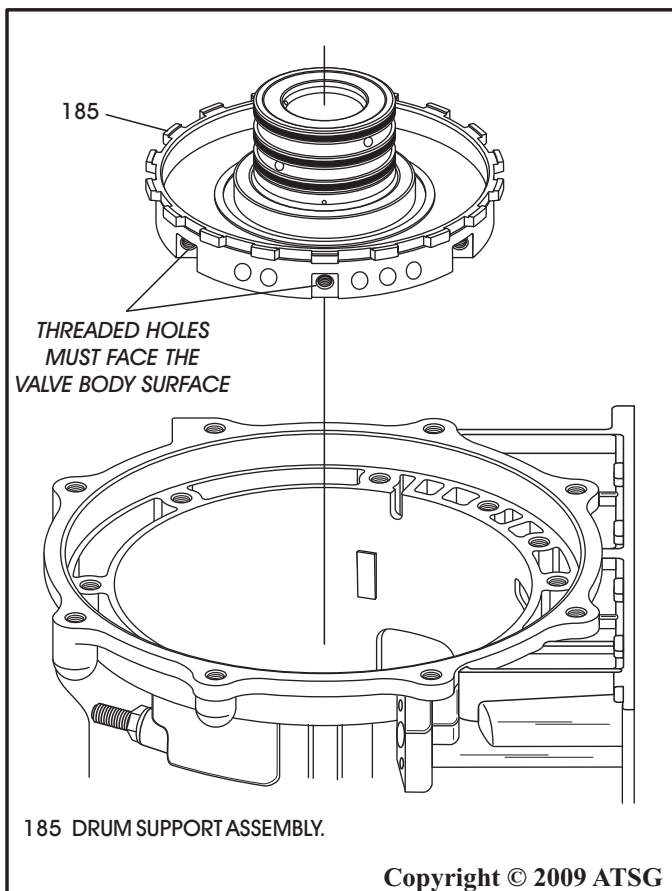

Figure 195
18. Install the pre-assembled drum support into the case, as shown in Figure 195.